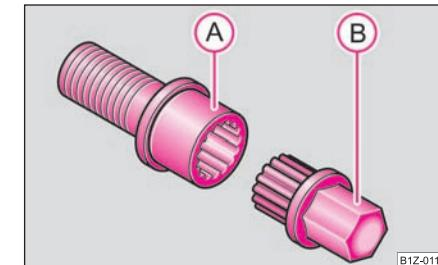

Fig. 165 Safety wheel bolt with
- Insert the adapter **(B)** with its toothed side fully into the inner toothings of the safety wheel bolt **(A)** right down in such a way that only the outer hexagon is jutting out ⇒ fig. 165.